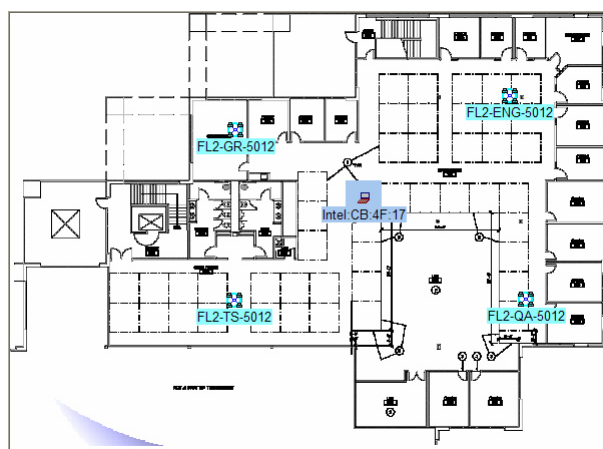

Figure 10-11: Rogue Station Shown
- 2) Right-click the rogue station and select "Show location in Floor Plan". The Floor Plan screen appears with the selected station displayed. See Figure 10-11.